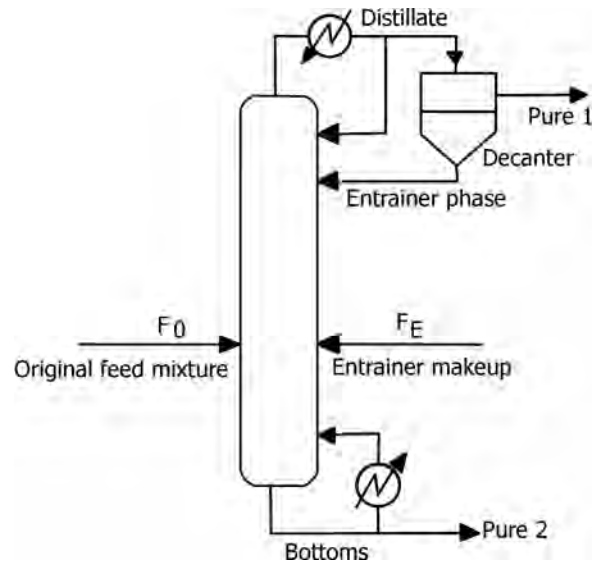

FIGURE 17.32 A common heteroazeotropic distillation scheme with distillate decanter.
- The smaller the change in azeotropic composition with pressure, the larger is the recycle in Figure 17.32.
- > Ethanol (2)–water (1)–benzene (E) forms a ternary heteroazeotrope.
- > Figure 17.32 illustrates the process of azeotropic distillation.